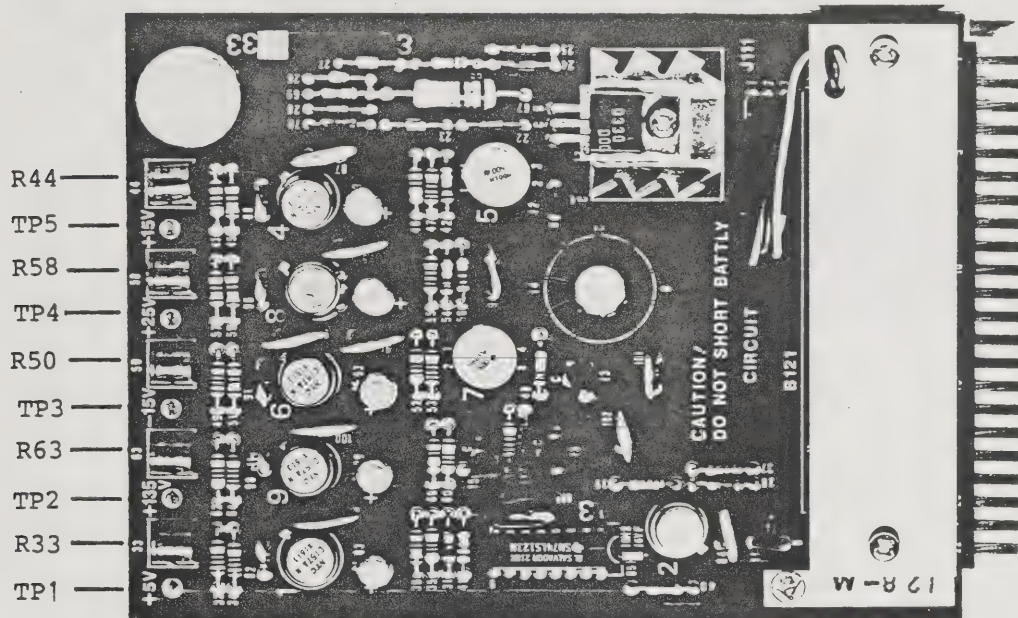

Fig. 11-2 Supply voltage adjustments and test points on the DISPLAY POWER 1 board (BGC-010198)
- (1) Set the POWER switch to ON, and check the supply voltage at each point. The location of voltage adjustment and test points are shown in Figure 11-2.
- (2) Using the voltage adjustments corresponding to each test point, adjust supply voltage until within specifications listed in Table 11-3.